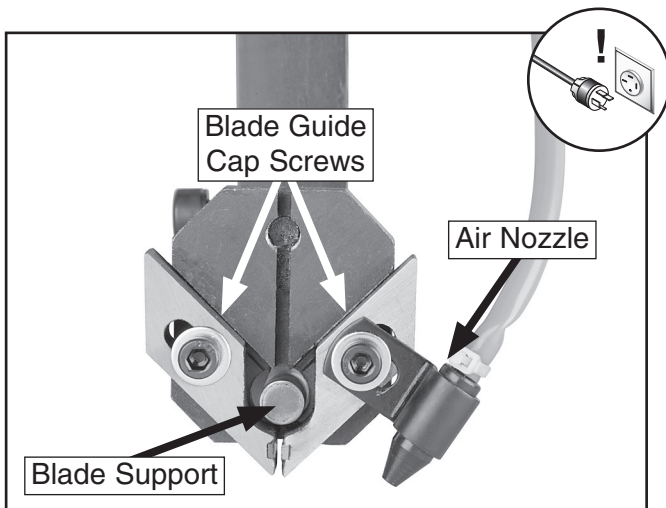

Figure 23. Blade guide assembly (upper assembly shown without blade for clarity).
- Slide the blade support (see **Figure 23**) up to, but not touching, the back of the blade, then re-tighten the blade support cap screw.
- Use a 4mm hex wrench to loosen the blade guide cap screws (see **Figure 23**).